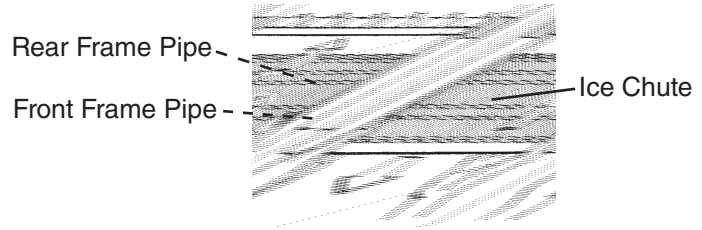

Fig. 39
- 6) Lift off the ice chute from the front frame pipe and then from the rear frame pipe. See Fig. 39.